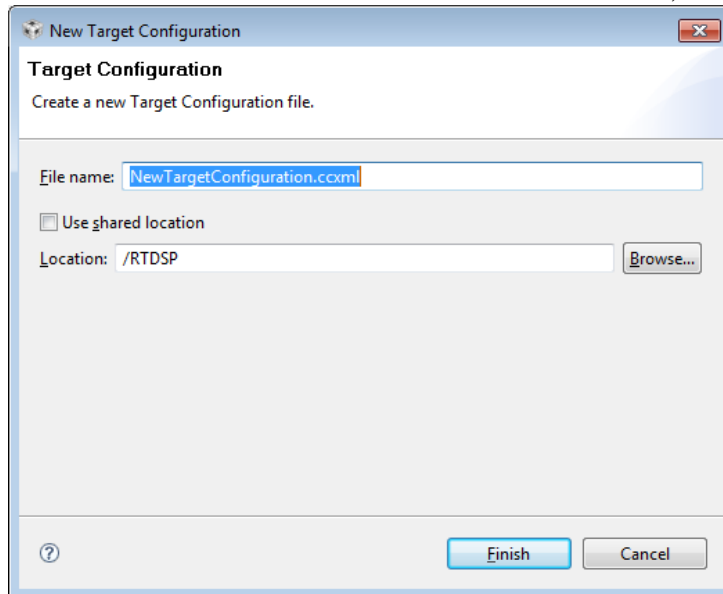

Figure 6: Creating a Target configuration
- Ensure the use shared location box is **NOT** checked, the window should look like figure 6: